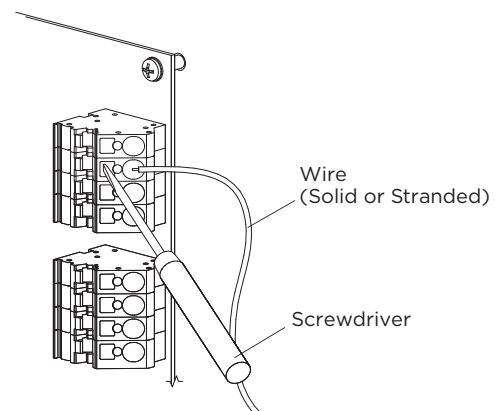

FIGURE 6. BACKPLANE LOAD WIRING TERMINALS
- Step 6. Route LOAD HOT wires to their individual terminals located on the Backplane PCB (**FIGURE 6. Backplane load Wiring Terminals on page 12**). Strip 7/16 inch of insulation and terminate in spring-cage terminals using small flat screwdriver (no torque setting required).
CAUTION: Do not attempt to “push” load wires into spring-cage terminals without first inserting the screwdriver into the appropriate slot (**FIGURE 6. Backplane load Wiring Terminals on page 12**). Failure to install load wires as directed may damage the spring-cage connector, and may void manufacturers warranty!